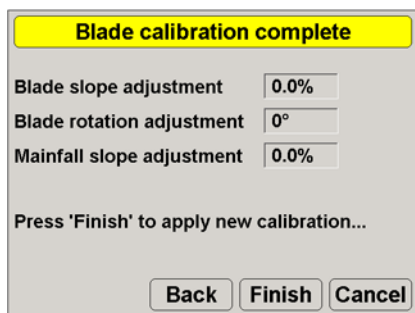

Figure 4-7. Blade Calibration Complete
5. Press the **Next** key and wait five seconds (Figure 4-7 on page 4-6).
6. Press **Finish** to apply the calibrations (Figure 4-7).